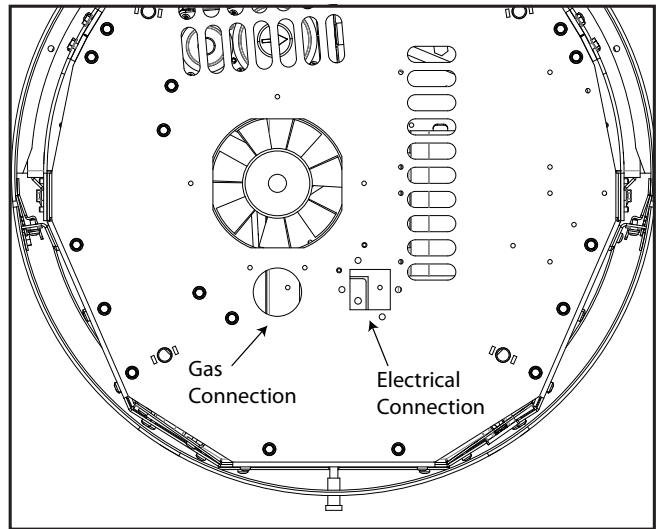

Figure 82: Gas & Electrical Connection Points (Bottom View)
4. Rewire the IEC electrical outlet and position over the hole shown in Figure 82.